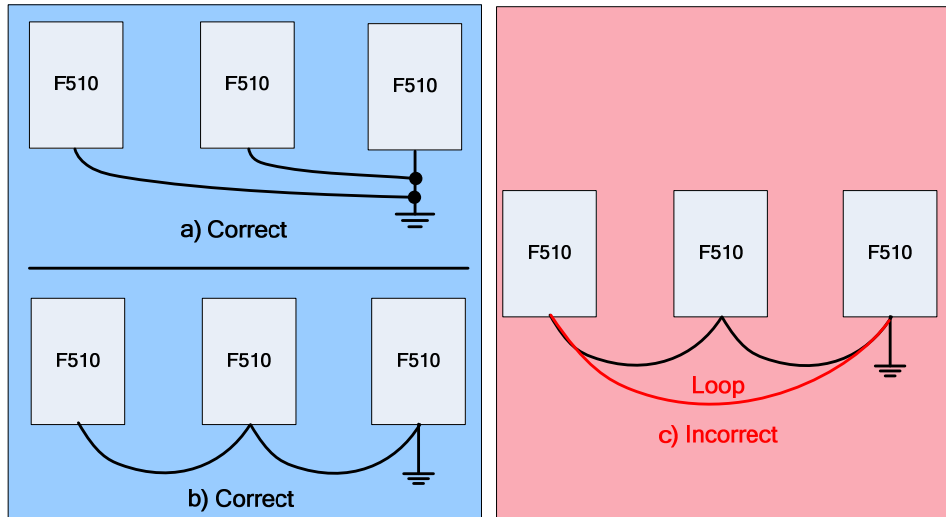

Figure 3.3.6.2 F510 Inverter Grounding
- (1) Connect the ground terminal (E) to ground having a resistance of less than 100Ω.
- (2) Do not share the ground wire with other devices, such as welding machines or power tools.
- (3) Always use a ground wire that complies with the local codes and standards for electrical equipment and minimize the length of ground wire.
- (4) When using more than one inverter, be careful not to loop the ground wire, as shown below in Fig. 3.3.6.2.